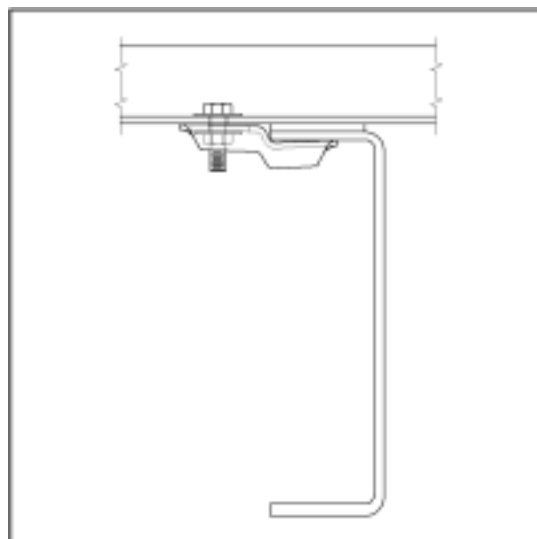

Figure 1—Tie-Down Clamp Part Number 1385723
2. After 2000 miles, tighten quarterly to 37 to 41 foot-pounds. **Figure 1—Tie Down Clamp Part Number 1385723.**